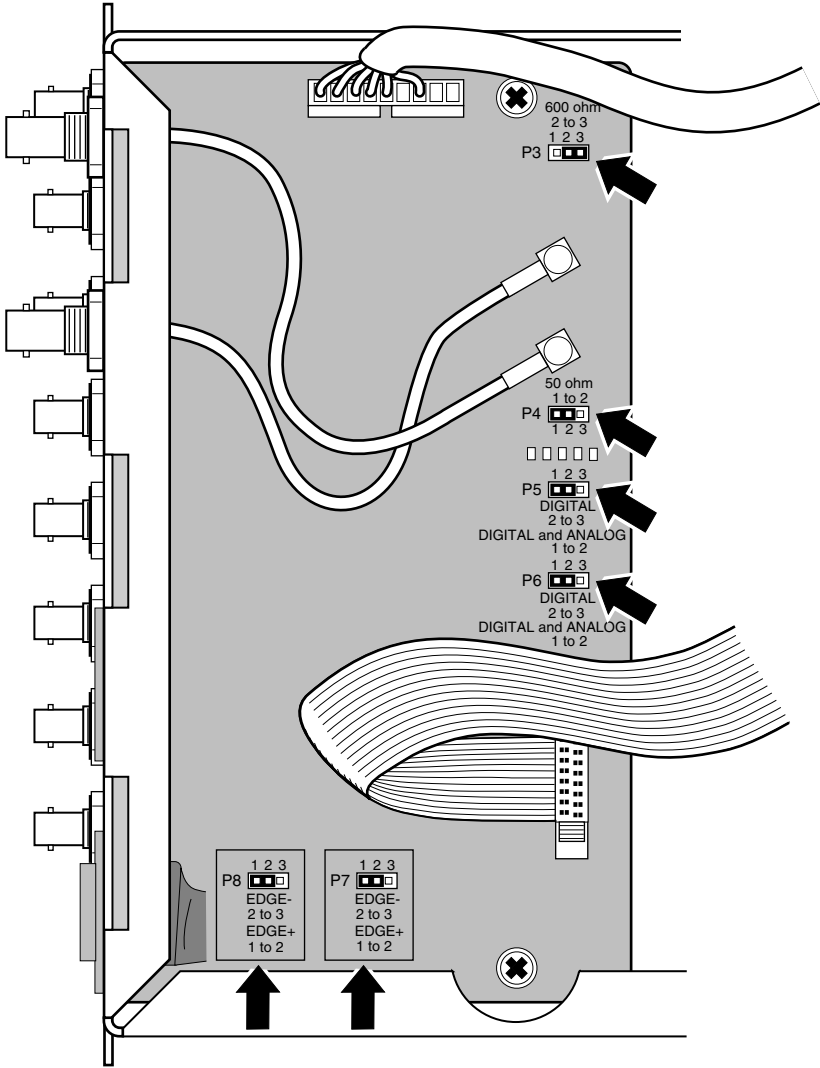

Figure 2-10. 59552A Combined Mode Jumper Locations
- 2 In the 59552A, place both jumpers P5 and P6 in the pins 1,2 position (i.e., pins 1 and 2 shorted or connected together) as shown in Figure 2-10.
If you require the *rising edge* of the 1 PPS input as the on-time edge, place both jumpers P7 and P8 in the pins 1,2 position as shown in Figure 2-10.
- 4 If you require a 600 Ω input impedance for the IRIG (analog) input, place jumper P3 in the pins 2,3 position as shown in Figure 2-10.
- 5 If you require a 50 Ω load applied to the **Digital In (1 PPS)** input, place jumper P4 in the pins 1,2 position as shown in Figure 2-10.